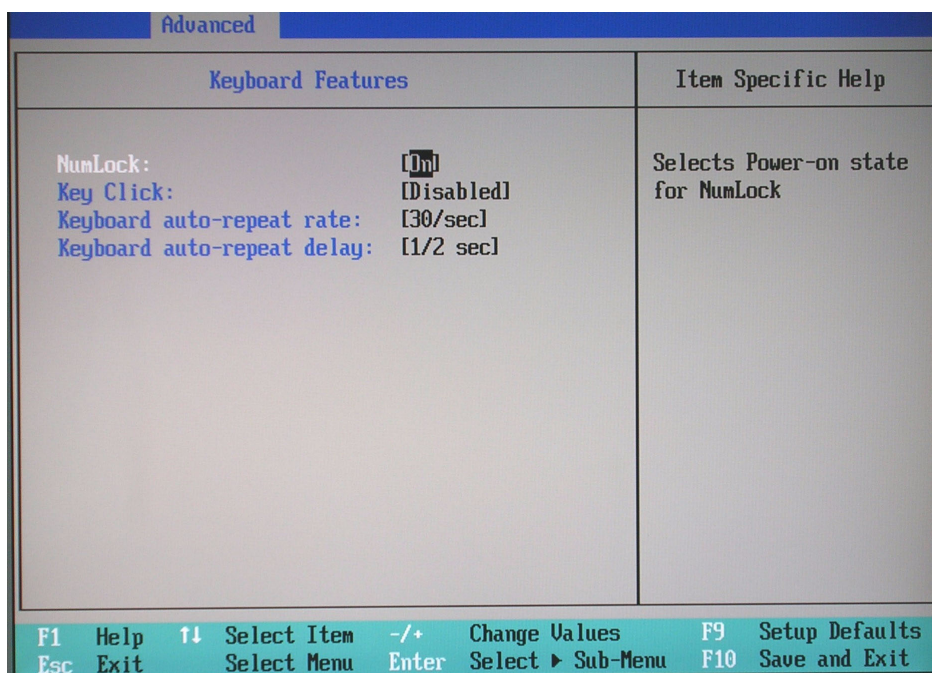

Figure 8-116 BIOS Advanced Keyboard Features Parameters
Keyboard Features	Figure 8-116 on page 8-117
15.) Set the parameters in the **Keyboard Features** screen as shown above in Figure 8-116.